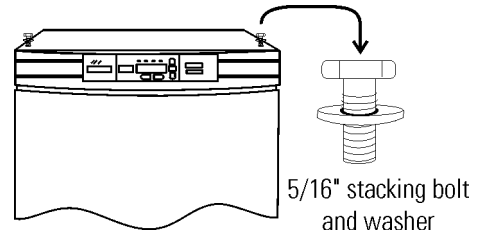

Figure 1-6. Bolt Holes
- Remove the two plastic plugs from the bolt holes in the exterior top of the bottom unit. Install the $\frac{1}{2}$ " long 5/16-18 stacking bolts and washers (Figure 1-6) into the bolt holes - do not tighten the bolts at this time.